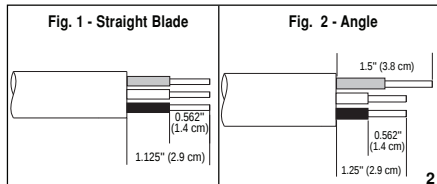

Fig. 3a
- Twist all strands of each conductor tightly together (**DO NOT TIN CONDUCTORS**). For convenience connect Green wire first. **NOTE: DO NOT fully back out terminal screws. If needed, loosen only enough for wire to fit into wire well. Insert straight conductors into proper wire wells as follows: For devices rated 125V – Green wire to Green screw. White wire to Silver screw. Black wire to Brass screw. For devices rated 250V – Green wire to Green screw, Black wires to Brass screws. Tighten terminal screws firmly to 12-14 in.-lbs. Refer to appropriate wiring diagram (Figs. 3a, 3b, or 3c).**